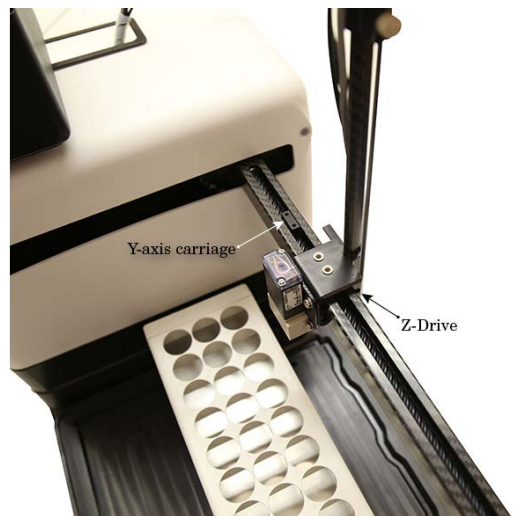

Figure 2-16 Z-Drive mounted on the Y-axis carriage
2. Find the Y-axis carriage on the arm of the AutoSampler Module. The Z-Drive will be attached to this carriage (Figure 2-16).